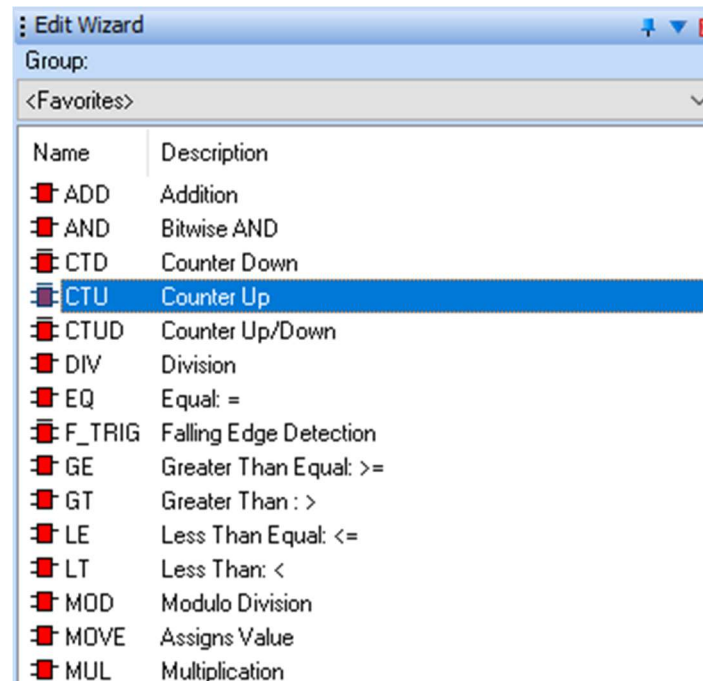

Figure 13: Counter Up Navigation in Edit Wizard
- On the right side of the screen in the **Edit Wizard**, click and drag **Counter Up (CTU)** out onto the blank workspace in the middle of the window as highlighted in Figure 13.